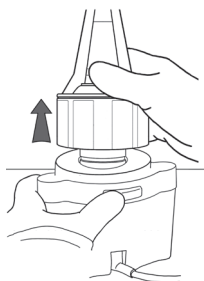

Figure 13
- Detach Disposable Unit by pressing release button on rear of Centrifuge while lifting Disposable Unit (Figure 13).